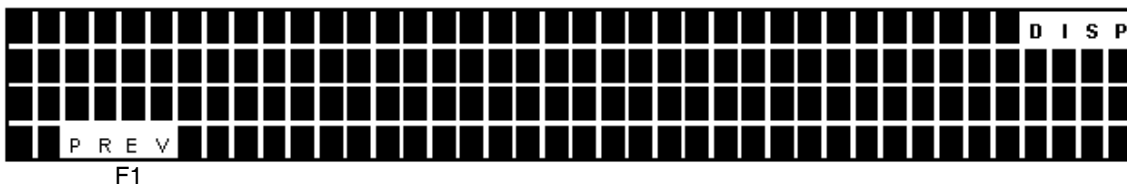

Figure 5-7 Display Test
2. Select **F4 DISPL**. The Display screen appears (Figure 5-7). All characters on the display should be solid black except the screen name (DISP) and the F1 PREV key.